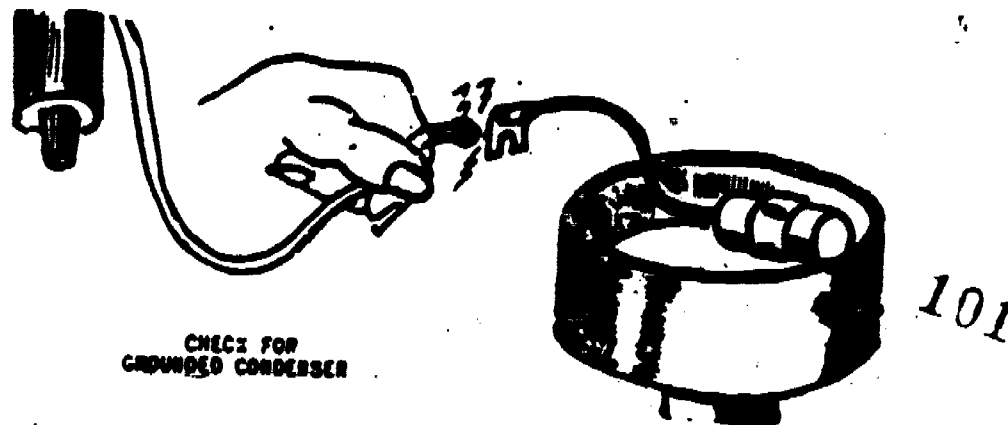

Figure 4. Checking Grounded Condenser.
b. Disconnect the condenser pigtail lead and touch the primary wire to the condenser pigtail lead, figure 4.